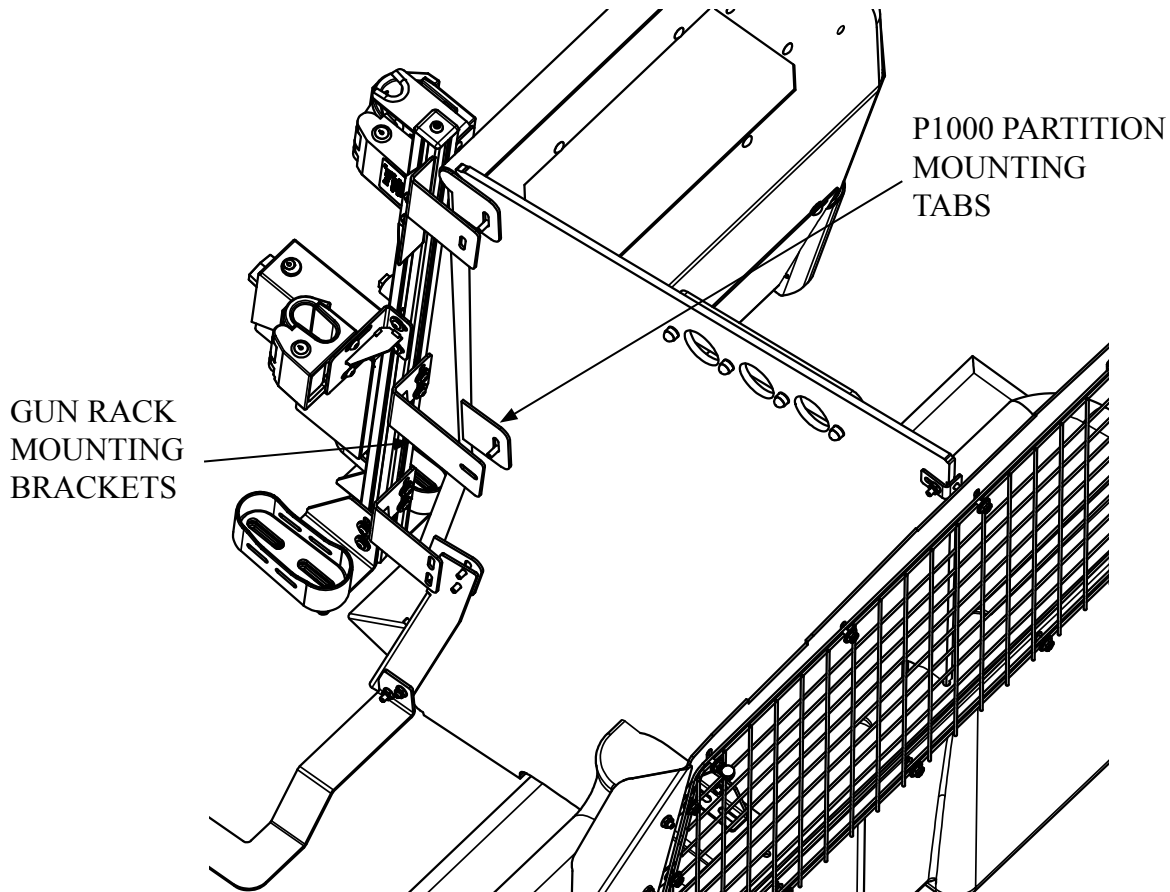

Figure 2.
- Remove the whiz nuts holding the poly center divider to the P1000 partition's mounting tabs one at a time starting with from the bottom. Then carefully insert the corresponding gun rack brackets over the bolts sticking through the partition mounting tabs. Resecure them with the removed whiz nuts loosely before moving onto the next bracket. (See Fig. 2 on the next page)